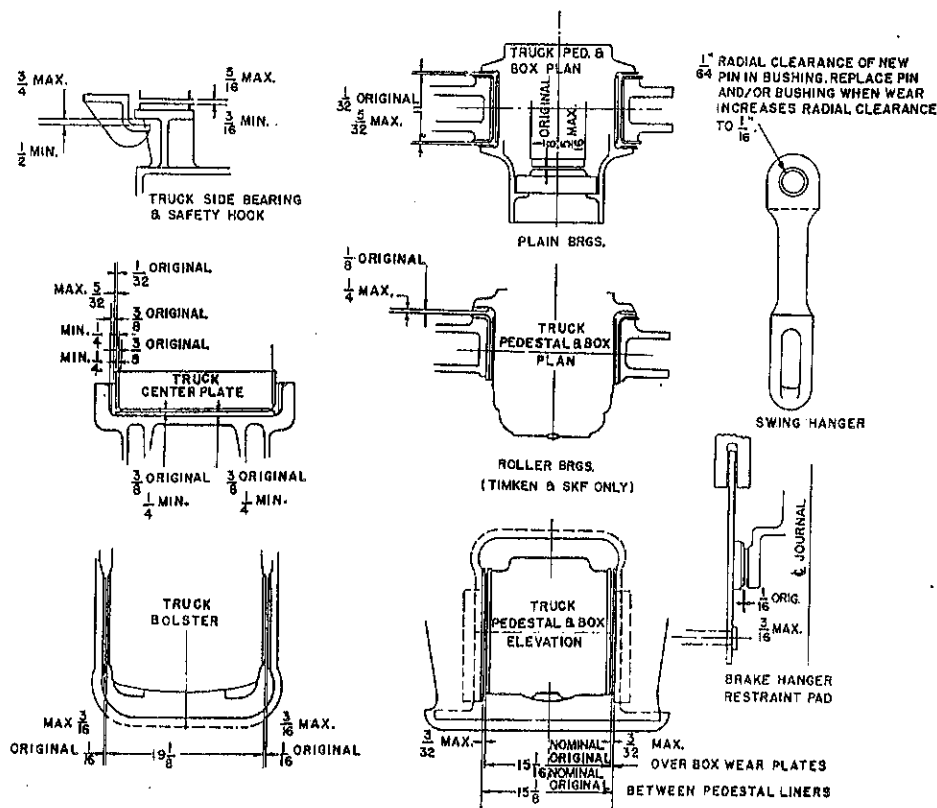

Fig. 5 - CLEARANCES AND WEAR LIMITS
1. The following items should be inspected and compared with Fig. 5 for clearance and wear limits.